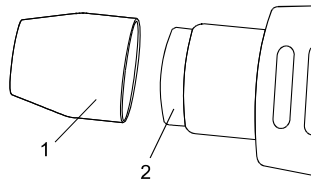

Fig. 3
Push the selected deflector (1) onto the small end of the heat gun nozzle (2) (Fig. 3).